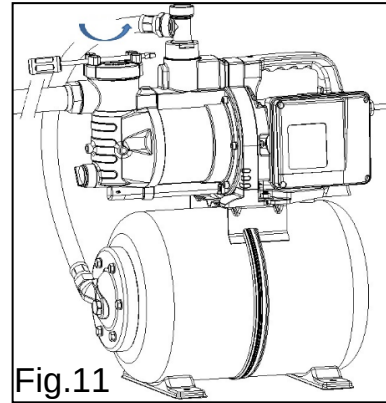

Fig.11
- (1) Open the filter lid by turning in counterclockwise rotation. You can use something like a screwdriver for help (Fig.11).